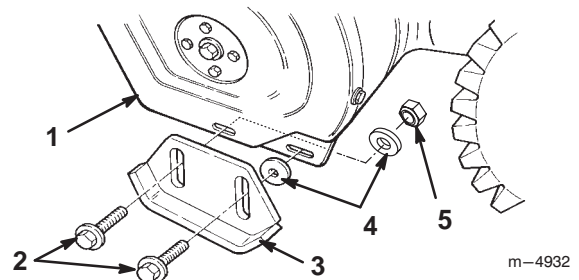

Figure 18
3. Remove the two flange bolts and flat washers that secure the ends of the scraper to the side plates (Fig. 18).
5. Insert a washer *between each skid and the side plate* (Fig. 18). Do not tighten the bolts.
7. Insert a washer and a locknut *behind (on the inside of) the side plate* (Fig. 18). Do not tighten the bolts.